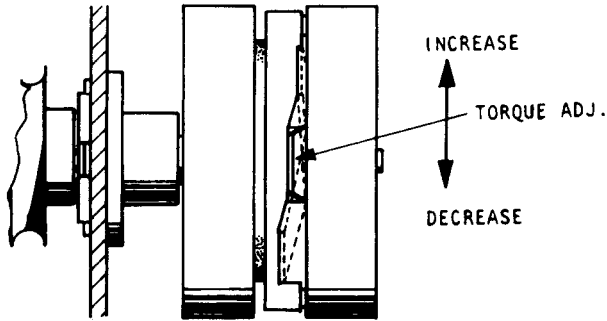

Fig. 6.1
- (2) Take-up Torque should be 40 ± 10 g-cm.
- (3) To adjust torque, move take-up spring as shown in Fig. 6.1.
- (4) If torque is not sufficient during play mode, bend the take-up spring equally or replace the take-up spring.